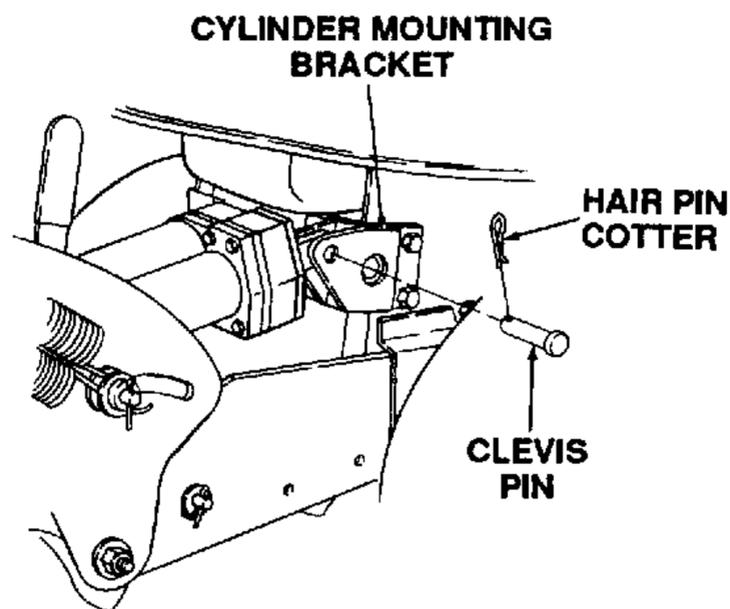

Figure 7-61. Attaching Lift Cylinder To Tractor.
- a. Position the motor end of the lift cylinder (3) between the mounting ears of the cylinder mounting bracket as shown in Figure 7-61.
- b. Align the holes, insert the clevis pin (36), and secure with the hairpin cotter (37) as shown in Figure 7-61.